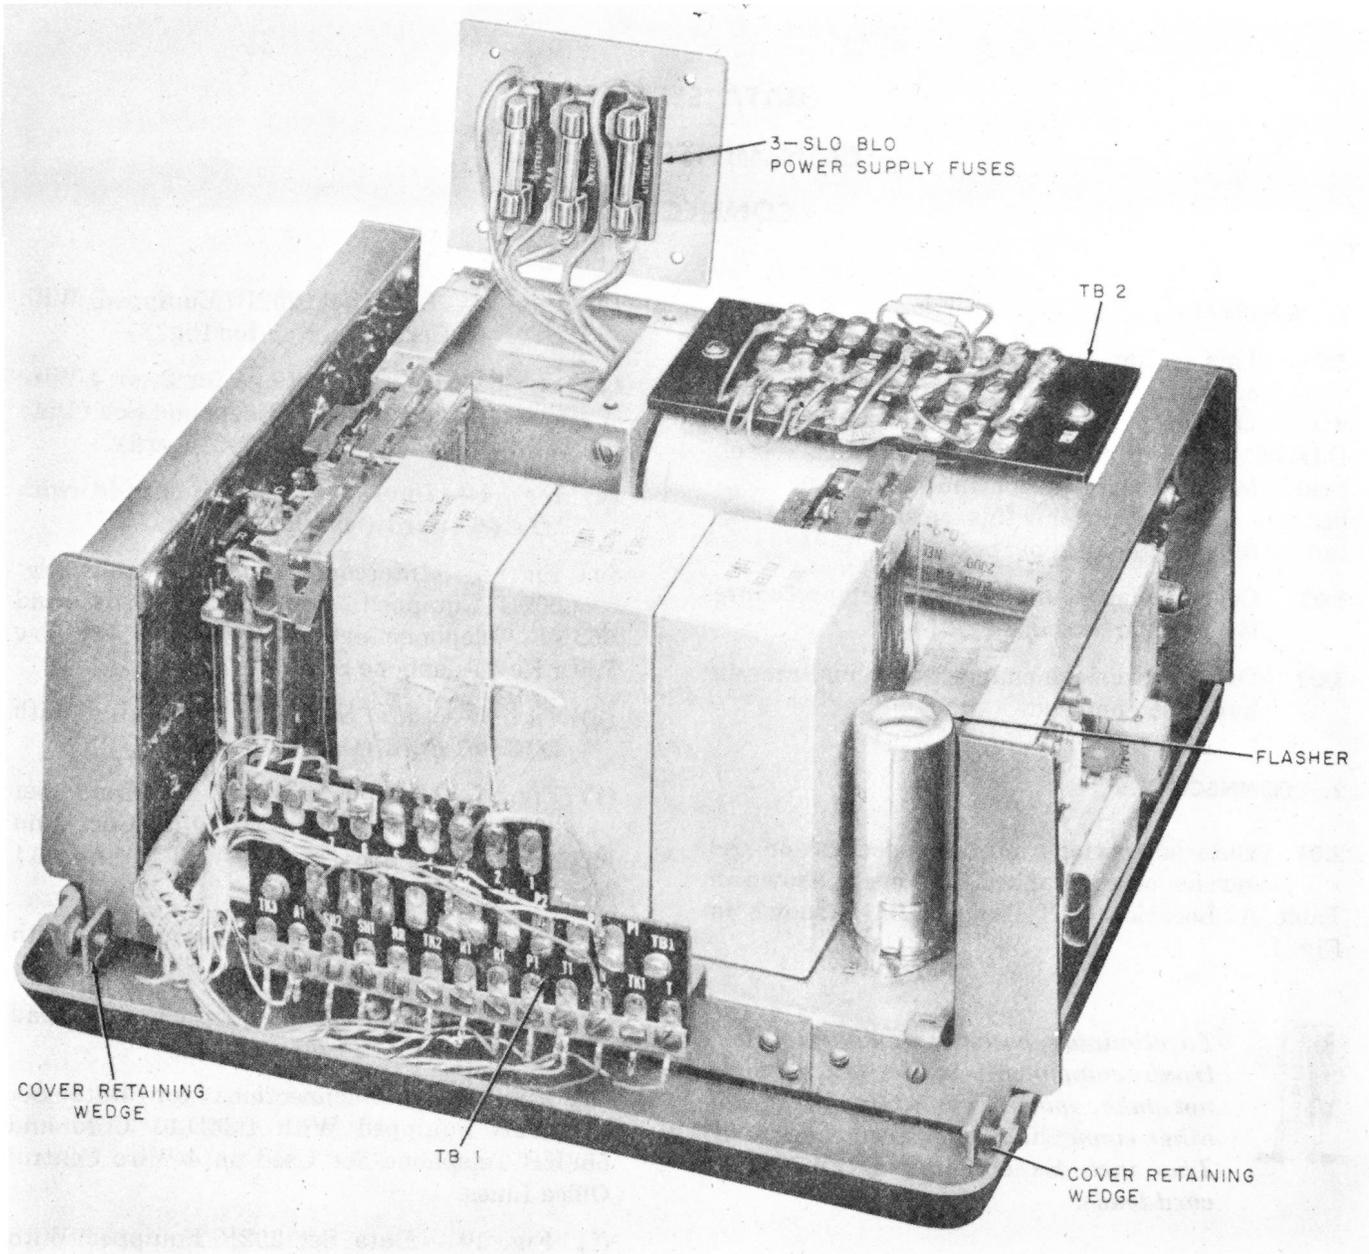

Fig. 1 — Data Set 202B — Inside View
**2.01** Data set options must be specified on the service order. Connect options as shown in Table A. Location of TB1 and TB2 is shown in Fig. 1.